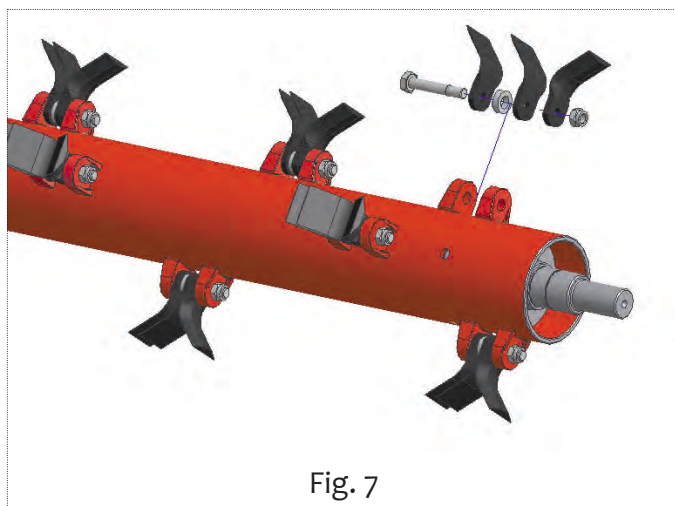

Fig. 7
The cutting height is established by the position of the bearing roller on the machine (Fig. 7). To change the position, slacken off the bolts (1 Fig. 7) on both sides, then remove them from one side and move the roller either down or up depending on the required cutting height. Fit the bolts back in place and repeat the operation on the other side. Now carefully tighten all the bolts. A taller cutting height is obtained with the roller in the lower position while the cutting height will be shorter when the roller is higher up. This is because the machine is furthered or neared to or from the ground. Once the bearing roller has been adjusted and the machine lowered to the ground, adjust the third point of the machine so that it is parallel to the ground.
Open or close the rear casing (2 Fig. 7) to adjust the degree to which the plants are shredded. The casing has various positions. The more it is closed, the finer the plants will be shredded. To improve the shredding operation, the machine can be equipped with rear rakes (Fig. 8) which only allow the material to come out after it has been finely shredded. This is convenient when pruning residues or other plants that have not been cut by the machine during its run need to be collected, since they are kept under the casing and shredded again. Regulate the harvesting blades by raising or lowering them but do not allow them to touch the ground. Their adjustment therefore functions according to the actual ground itself. If large twigs must be cut, the knives must be kept in a higher position. Vice versa, they must be set in a lower position if the twigs are smaller so that the material is held back if it is not cut.
- Remove the nut (Fig. 7) of the bolt that fastens the worn hammer. During the assembly phase, make sure that the new hammer is fixed in the same position;
- Remove the nut (Fig. 7) of the bolt that fastens the worn tines. Take care to check the positions of the various components,
particularly the spacers (Fig. 7). Make sure that the new tines and components are assembled in the same positions.